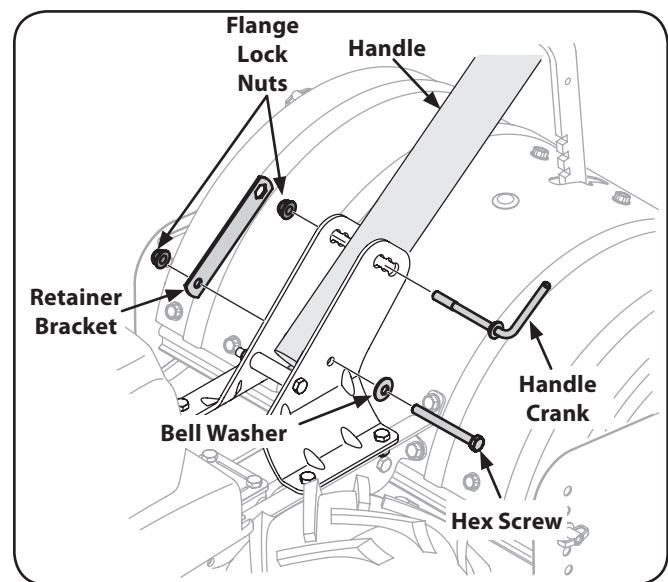

Figure 3-1
2. Insert the handle into the handle mounting brackets, lining up the pre-drilled holes. Insert the $\frac{5}{16}$ -18 x 3.00 hex screw through the bellville washer and into the bottom hole from the left hand side through to the right side. Place the round hole end of the retainer bracket over the hex screw and secure loosely with a $\frac{5}{16}$ -18 flange lock nut removed earlier. See Figure 3-1.
3. Install the handle crank into the top hole of the mounting bracket from the left hand side of the handle assembly, secure with the other flange lock nut previously removed. Fit the hex end of the retainer bracket over the flange lock nut. See Figure 3-1.